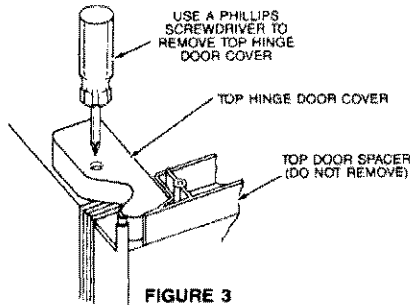

FIGURE 3
4. Remove the top hinge covers (see Figure 3).